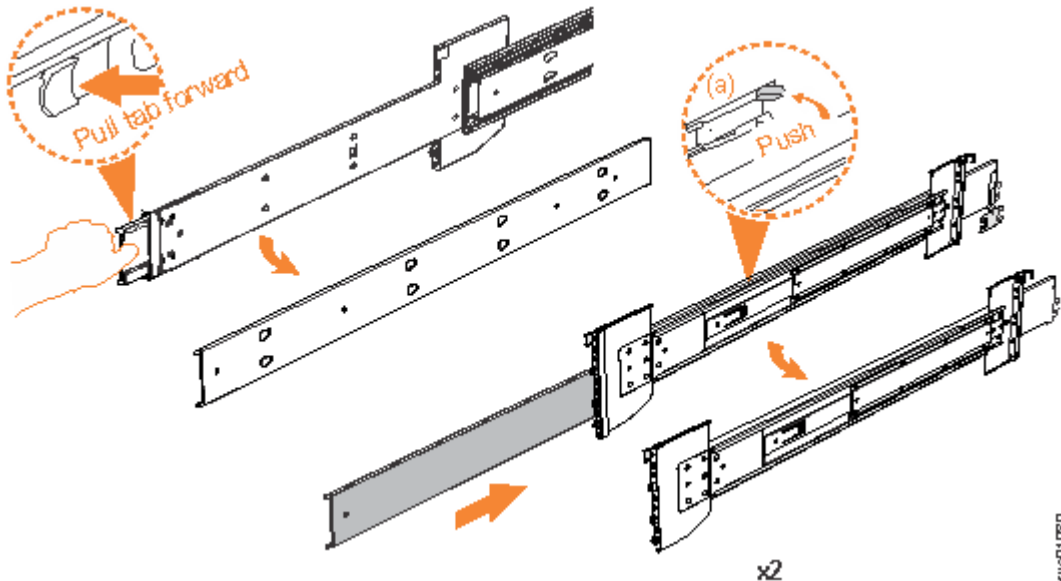

Figure 28. Detaching the inner rail section
3. Remove the inner member of the rail. Push the tab (a) and slide the middle rail member back, as shown in Figure 28 on page 27.